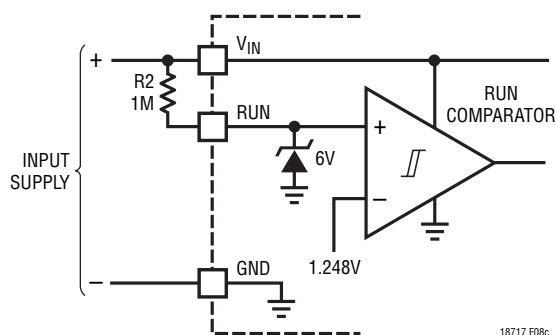

Figure 8c. External Pull-Up Resistor on RUN Pin for “Always On” Operation
**For applications where the RUN pin is only to be used as a logic input, the user should be aware of the 7V Absolute Maximum Rating for this pin!** The RUN pin can be connected to the input voltage through an external 1M resistor, as shown in Figure 8c, for “always on” operation.